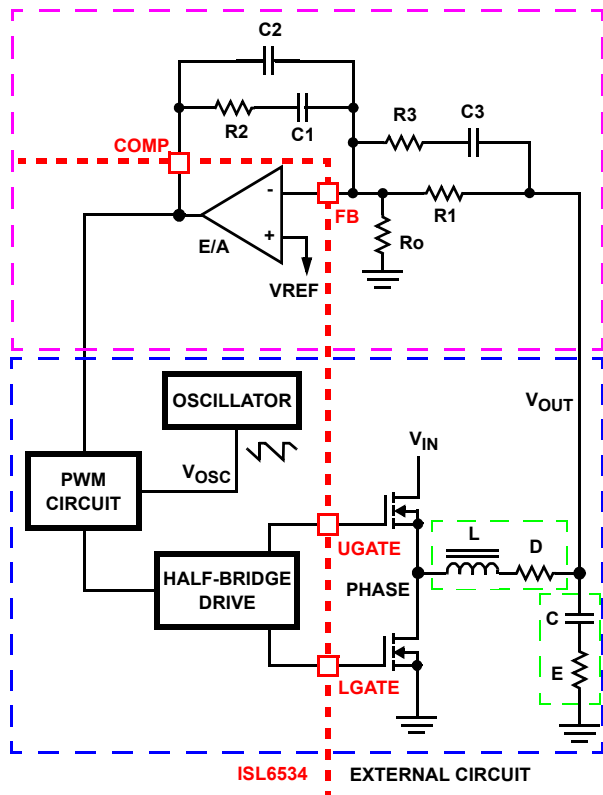

FIGURE 16. VOLTAGE-MODE BUCK CONVERTER COMPENSATION DESIGN
Figure 16 highlights the voltage-mode control loop for a synchronous-rectified buck converter, applicable to the ISL6534 circuit. The output voltage (V_{OUT}) is regulated to the reference voltage, V_{REF} . The error amplifier output (COMP pin voltage) is compared with the oscillator (OSC) modified sawtooth wave to provide a pulse-width modulated wave with an amplitude of V_{IN} at the PHASE node. The PWM wave is smoothed by the output filter (L and C). The output filter capacitor bank's equivalent series resistance is represented by the series resistor E.
5. Select a value for R1 (1k Ω to 5k Ω , typically). Calculate value for R2 for desired converter bandwidth (F_0). If setting the output voltage via an offset resistor connected to the FB pin, R_o in Figure 16, the design procedure can be followed as presented.